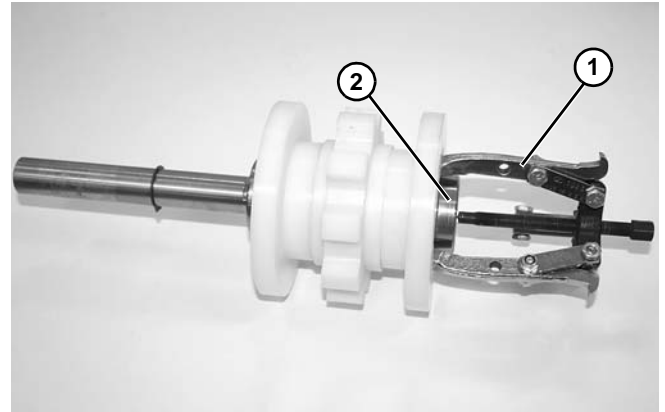

**Figure 55**
9. Remove bearing housing (**Figure 55, item 1**) and lift spindle shaft assembly from tail.